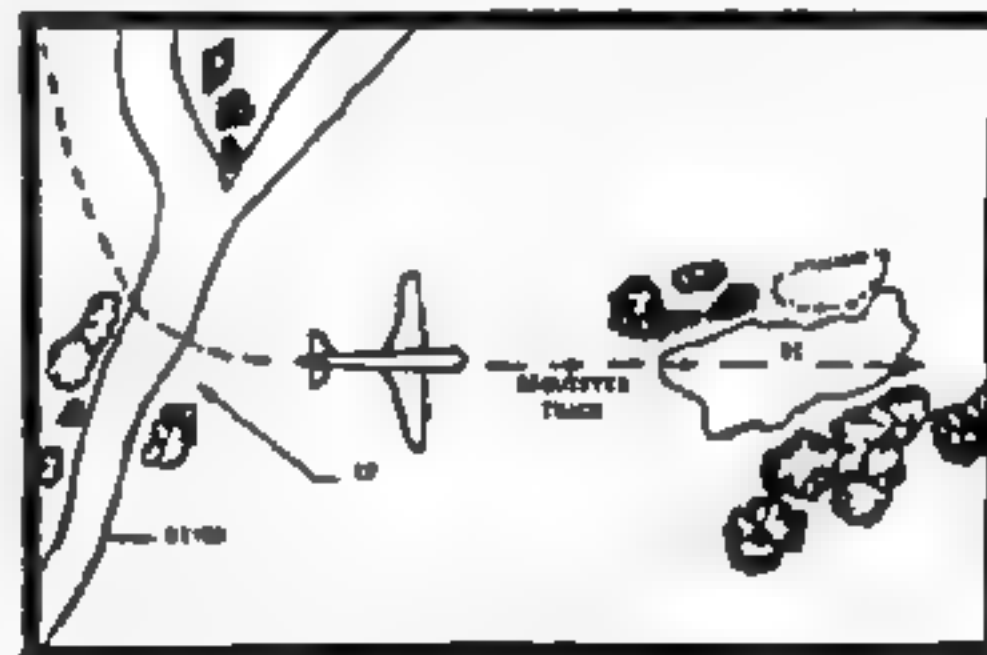

Figure 5. Relationship between IP and requested track
4. **Initial Points (IP's).** It is desirable to reconcile the requested aircraft track with an identifiable landmark that may be used by the aircrew as an initial point (IP). The IP, located at a distance of 5 to 15 miles (8-24 kilometers) from the DZ, is the final navigational checkpoint prior to reaching the target. Upon reaching the IP, the pilot turns to a predetermined magnetic heading that takes him over the DZ within a certain number of minutes (Figure 5). The following features constitute suitable IP's: